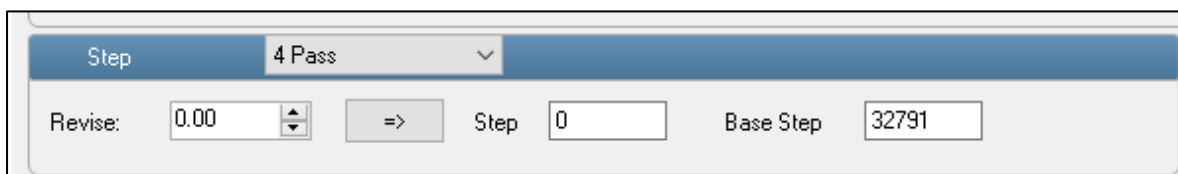

Fig 29: The Step Calibration Parameters
**Step 1:** Select the desired pass from the list and click on the **Print** button (Refer to Fig 29).
**Step 2:** Feed the correction value in the **Revise** field (the correction value up to two decimal places) (Refer to Fig 29).
**Step 3:** Click on the => icon (Refer to Fig 29) on the Step Calibration window. The correction value result will be reflected in the **Step** field (Refer to Fig 29). The same step value will also be displayed in the **Steps** field on the **Quick Access Toolbar**.